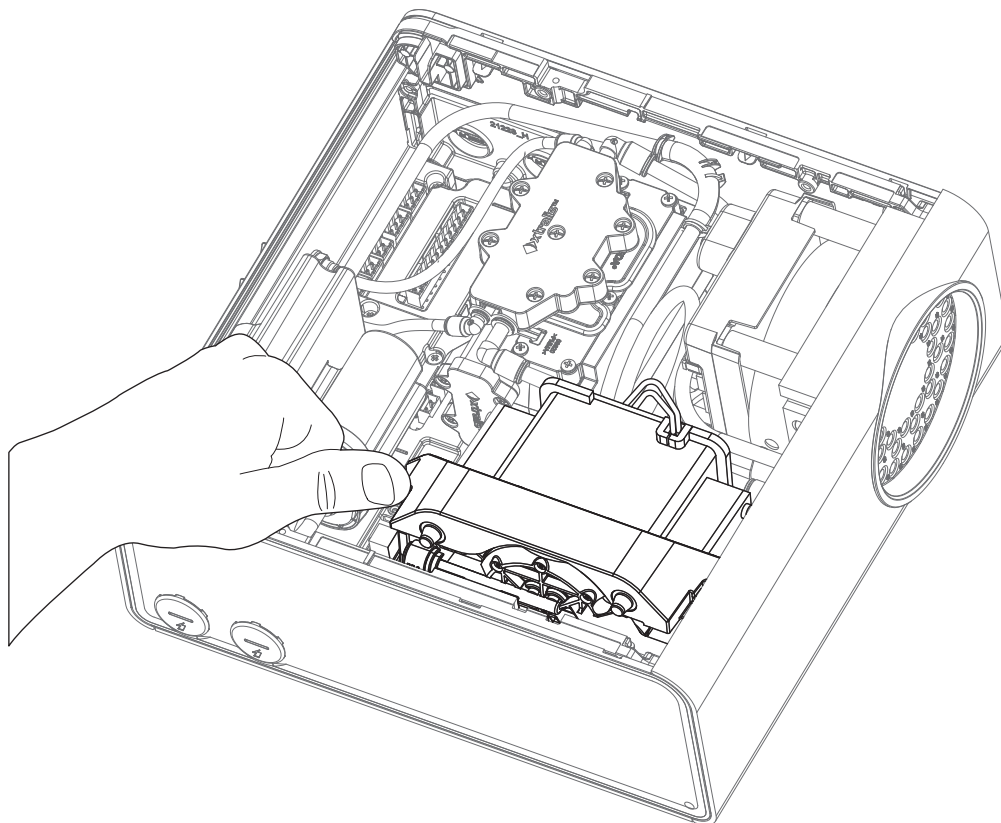

Figure 7-15: Remove pump
9. Lift the pump out of the detector. Do this by tilting and lifting as shown (Figure 7-15).